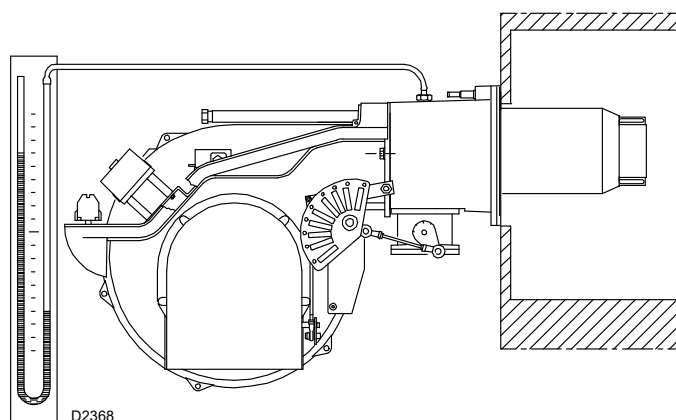

Fig. 25
- Purge the air from the gas line. Fit a U-type manometer (Fig. 25) to the gas pressure test point on the sleeve. The manometer readings are used to calculate the MAX. burner power using the Tab. J.